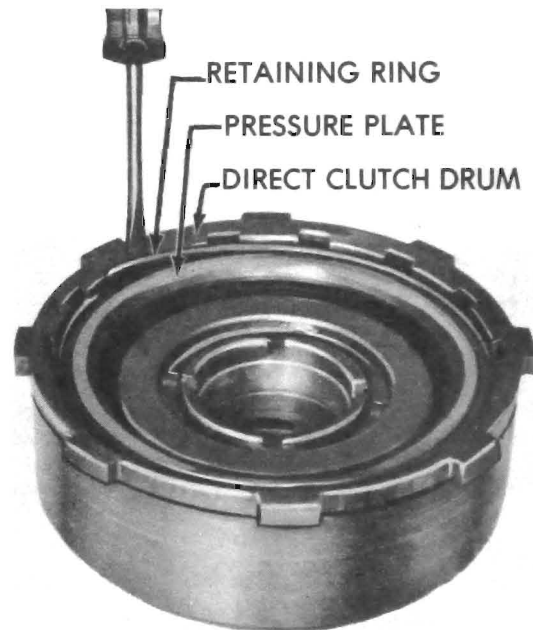

Figure 75-164
5. Remove direct clutch pressure plate to clutch drum retaining ring and pressure plate. See Figure 75-164.
7. Install direct clutch pressure plate and retaining ring. See Figure 75-164.